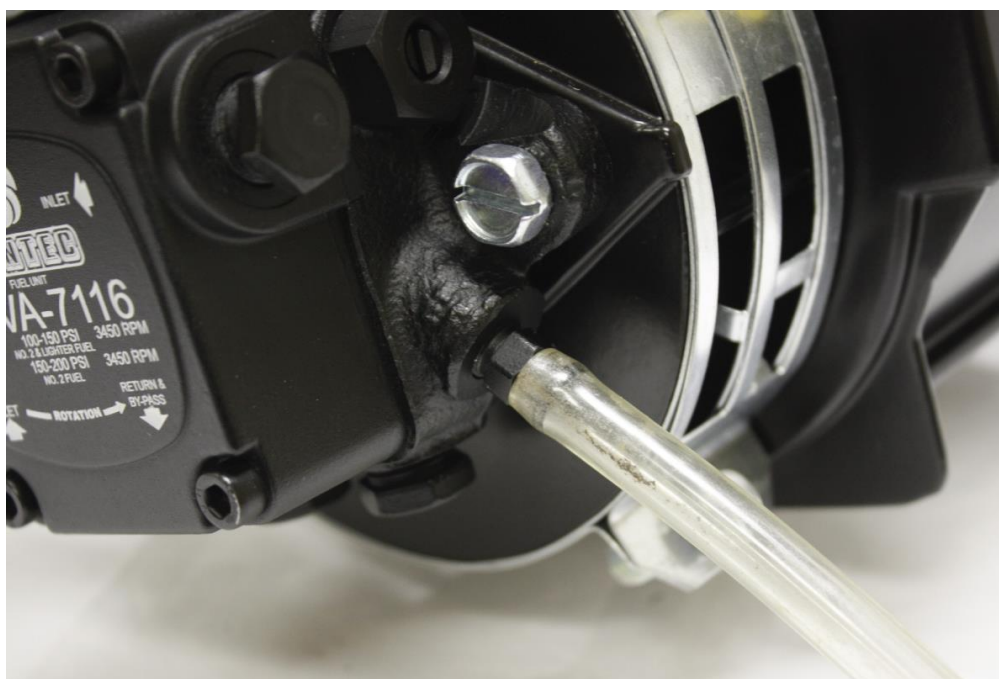

Figure 23– Bleeder hose location
1. Slide a 1/8" Vinyl hose on the bleeder valve as shown in Figure 23 and route the hose into a small container